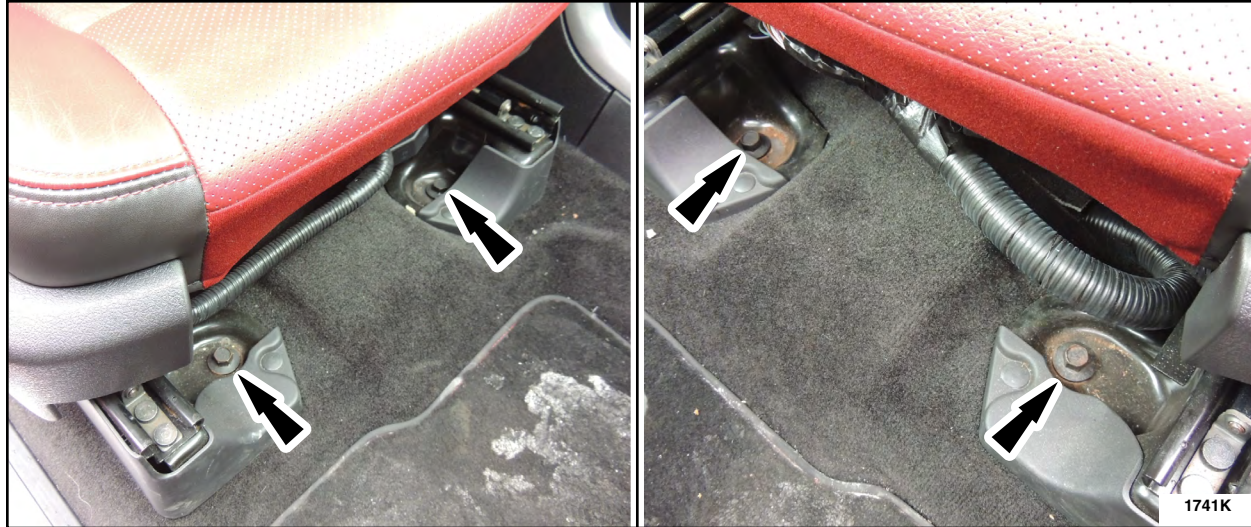

FIGURE 2
1. Remove and discard the two front seat bolts from both front seats (four bolts total). See Figure 2.
2. Install two *new* front seat bolts to both front seats (four bolts total). See Figure 2. The inboard seat mounting bolts must be tightened first, followed by the outboard bolts.